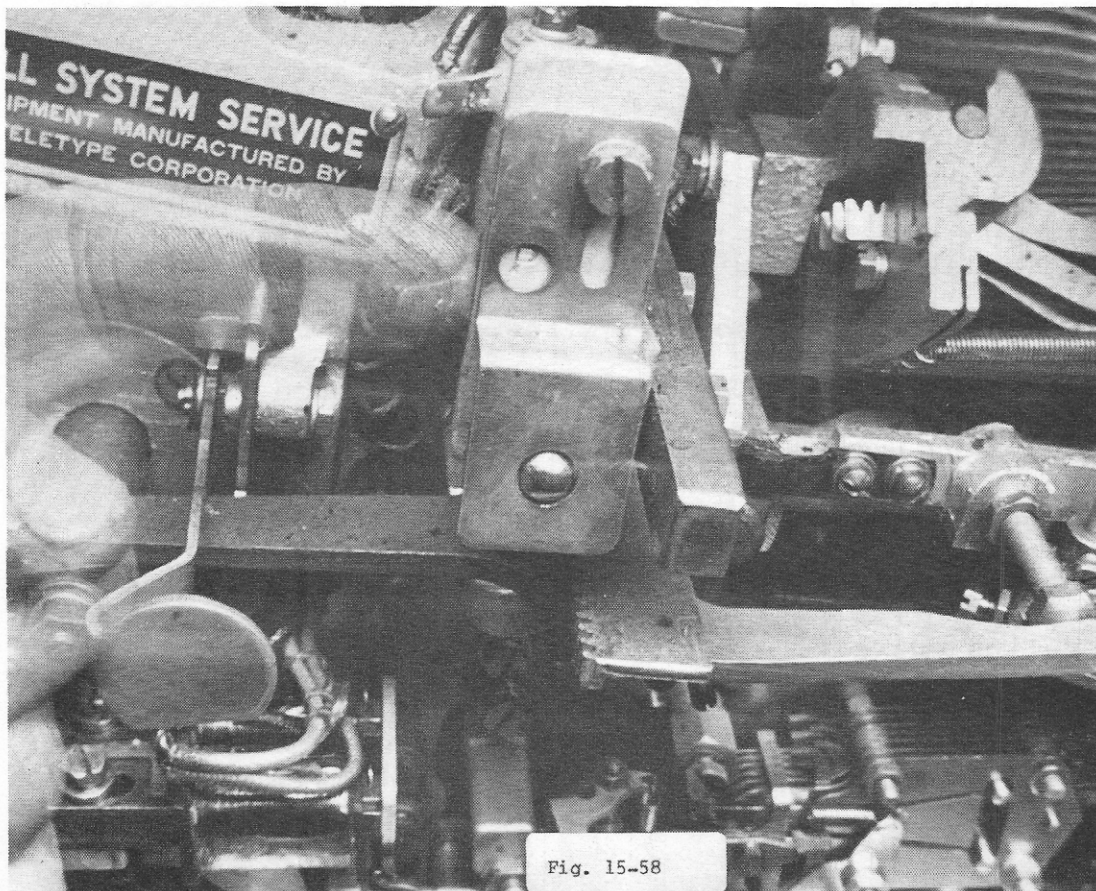

Fig. 15-58
The Holding Magnet System can be used on either a 20 mA or a 60 mA magnet-line current basis. The set up is arranged as follows: the two coils (each 100-ohms resistance) are placed in series for operation on a 20 mA line; a 5000-ohm resistor is connected across the seriesed coils for surge absorption. On a 60 mA line, the coils are placed in parallel, and the 5000-ohm resistor is not required. Typing units, having holding-magnet selectors, usually have switches to select parallel (P) or series (S) as necessary, so coil wires need not be manipulated. Fig. 15-58. Incidentally, the measured resistance of a 60 mA holding-magnet setup is 50-ohms; this is for information when doing continuity tests using an ohmmeter.